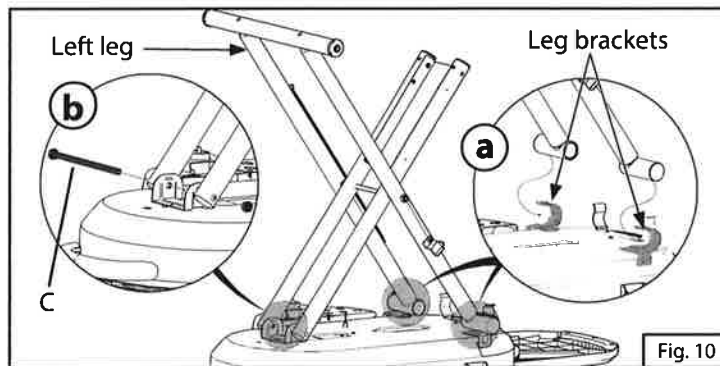

Fig. 10
9. Extend the legs and put the ends of the left leg into leg brackets (Step a in Fig. 10). Attach the right leg to the grill base with bolt C. (Step b in Fig. 10)